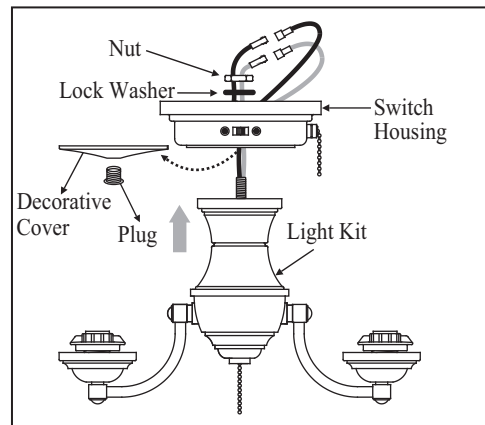

Figure 21
1. Remove and discard the plug and decorative cover from the switch housing. Attach the light kit to the switch housing by feeding the light kit wires (black and white) through the hole of switch housing and then screw it onto the switch housing by nut & lock washer. Be sure it is tight enough to prevent light kit from vibrating loose. (Fig. 21)